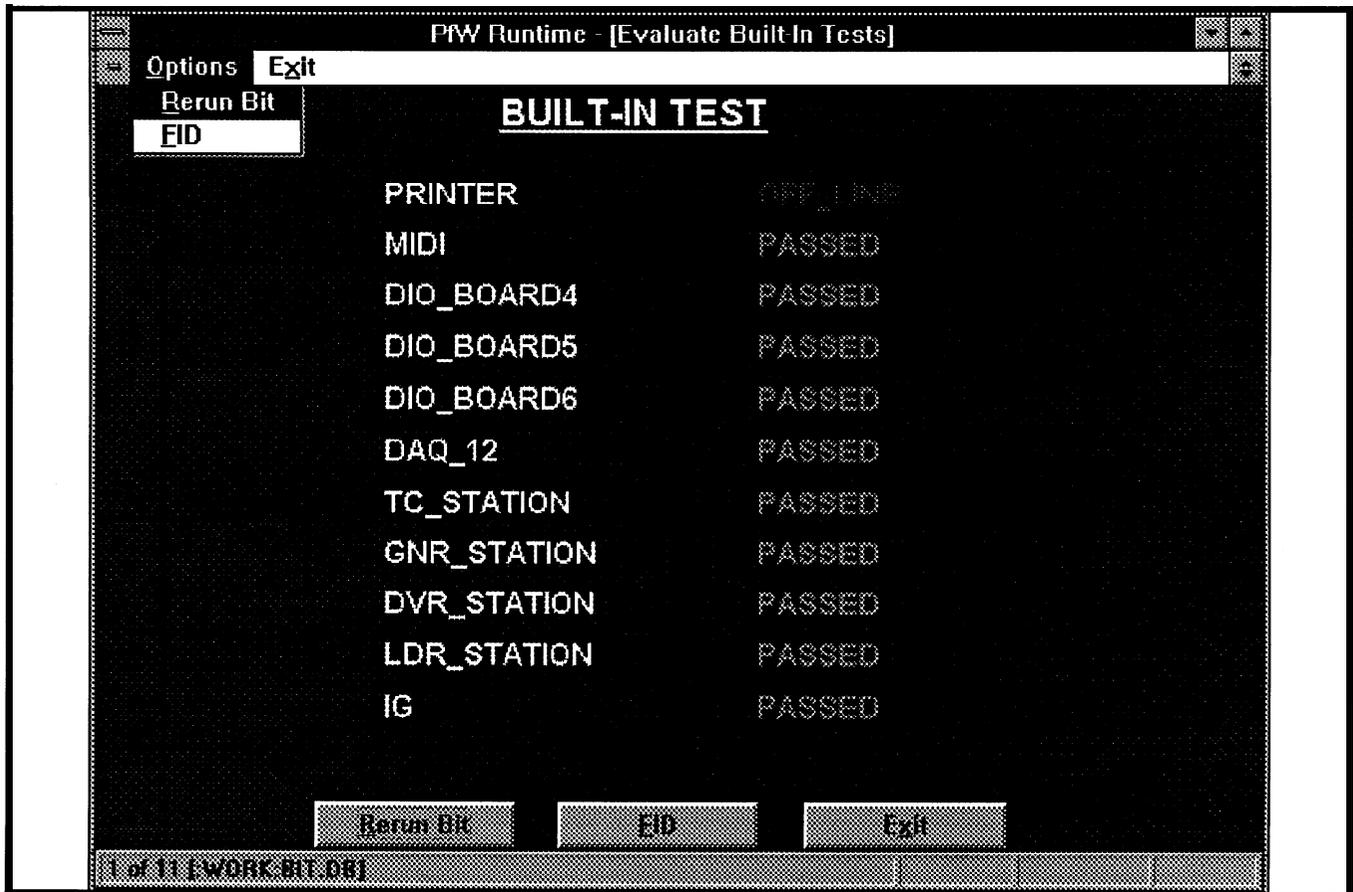

Figure 2-80. BIT Screen
- (5) Press the "Ctrl", "Alt" and "Delete" keys **simultaneously**. When the "Logon" screen appears, type your assigned Username and password to logon to the system.
- (6) The Built-In-Test (BIT) (see Figure 2-79.) will run automatically. AFIST automatically initiates the BIT upon each system logon to identify equipment faults. When BIT detects an equipment fault, the monitor displays the BIT Screen, Figure 2-80, which shows the BIT results to the I/O. The I/O then conducts or directs a **physical** check of the appropriate items. If this check does not result in a fully operational system, refer to the troubleshooting procedures in Chapter 3.
- (7) The right screen is blank (for approximately 5 minutes), then displays either a European or desert scene,
- (8) The system controller ON/OFF switch lights.
- (9) The audio preamp mixer unit POWER light lights.
- (10) The S/P menu lights.
- (11) The printer ON LINE light lights, but does not flash